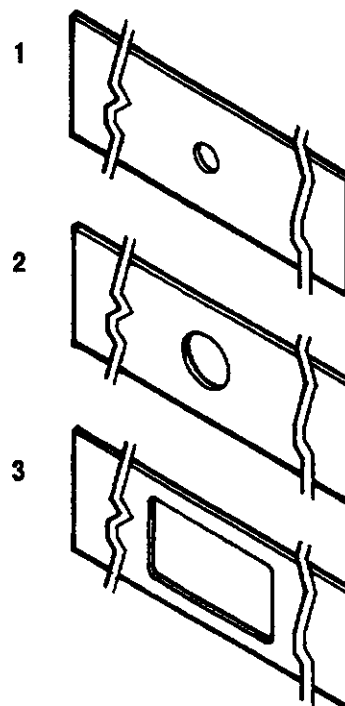

Figure 6
1. Drill a 12.7mm [.5 in.] hole in center of raceway cover (based on a 55.25mm [2.175 in.] raceway cover width. See Figure 6.